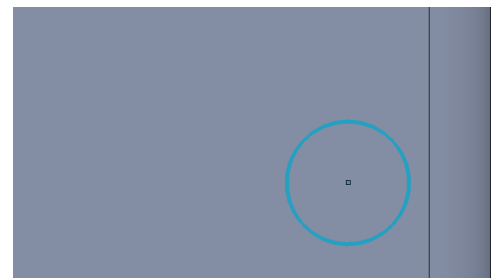

Fig. 3
Step 5. Click **Circle**  (S) on the Sketch toolbar.
Step 6. Sketch circle on just inside bottom rear, **Fig. 3**.